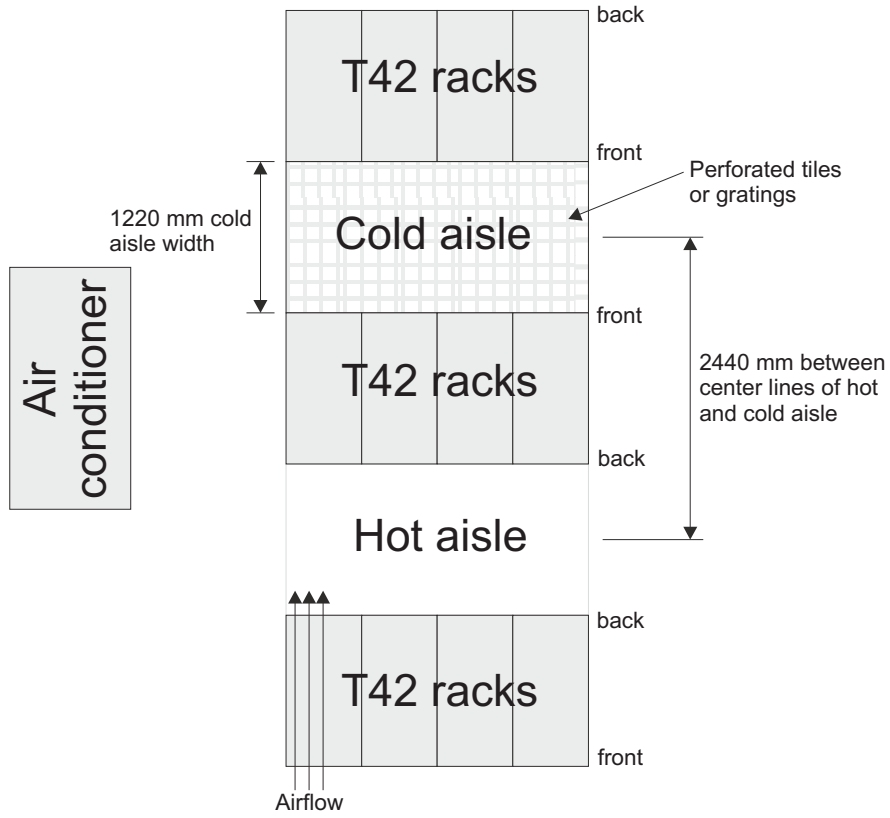

Figure 14. Example of cold aisle/hot aisle rack configuration
- Air enters at the front of the rack and leaves at the back. To prevent the air that is leaving the rack from entering the intake of another piece of equipment, you must position the racks in alternate rows, back-to-back and front-to-front. This arrangement is known as *cold aisle and hot aisle* and is shown in Figure 14 on page 26.